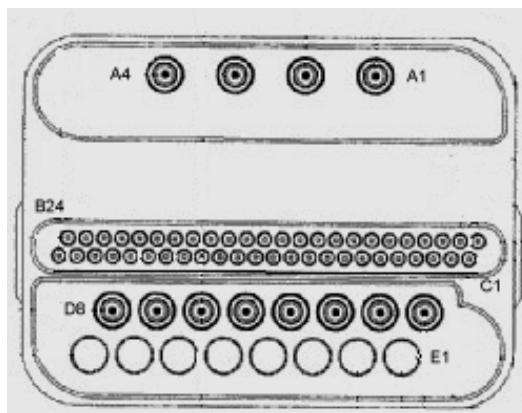

Figure 26: Pin layouts of Hypertronics connector.
Before removing the cable assembly from the coil, carefully check all coaxial connectors and pins on the coil connector. *Figure 26* shows the pin layouts of the coil connector. The connector of the CTL coil has 12 pins in Row B, eight pins in Row C and eight coaxial connectors in Row D. If there are any broken, deformed or recessed pins or coaxial connectors, replace the cable assembly.
Step 2 – There are six pins in Row B (see *Figure 26*) connecting to DC wires of the cable. *Table 3-3* shows these pins and corresponding DC wires. Use a Digital Volt Meter (DVM) to check the resistance between the pin in Row B and the corresponding DC wire (see *Figure 27*). The resistance should be $6.0 \pm 0.4\Omega$. If any resistance reading is not within this range, replace the cable assembly.